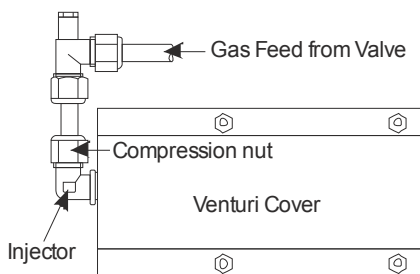

Figure 84
1. Undo the compression nut on the gas feed pipe to the injector (see **Figure 84**).